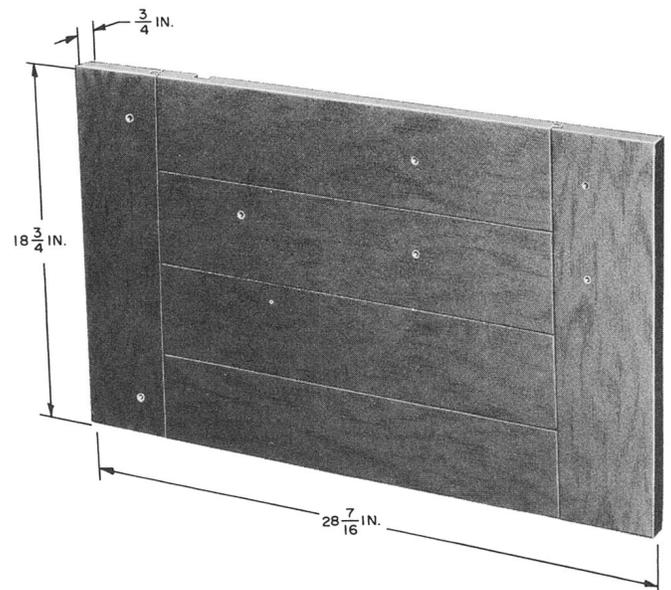

Fig. 11 – P-480578 Backboard
2.19 The P-480578 backboard (see Fig. 11) is used to install the 19-type pay station shelf and is supplied with the shelf. There are seven tee nuts set in the backboards. These are used to attach the shelf to the backboard. Holes for